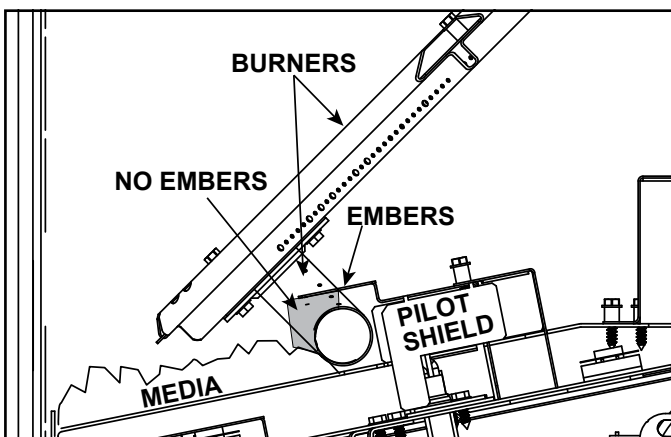

Figure 20 Embers Not Allowed - Side View
- Embers are not allowed in gray zone noted in Figure 20. Failure to follow this procedure could cause ignition issues.